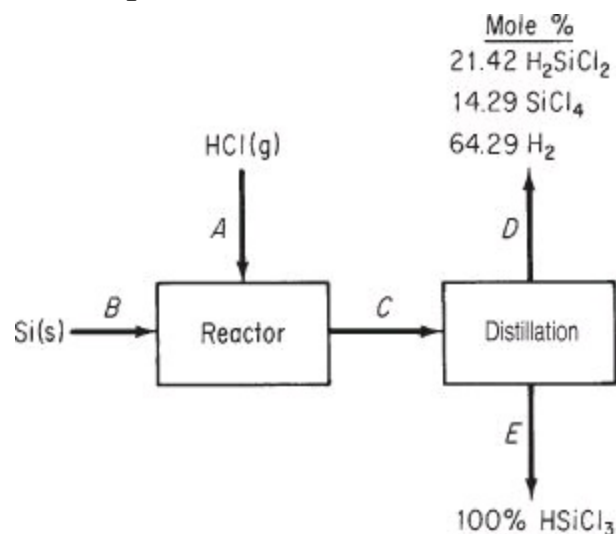

Figure P6.2.9
***6.2.9. Metallurgical-grade silicon is purified to electronic grade for use in the semiconductor industry by chemically separating it from its impurities. The Si metal reacts in varying degrees with hydrogen chloride gas at 300°C to form several polychlorinated silanes. Trichlorosilane is liquid at room temperature and is easily separated by fractional distillation from the other gases. If 100 kg of silicon is reacted as shown in Figure P6.2.9, how much trichlorosilane is produced?